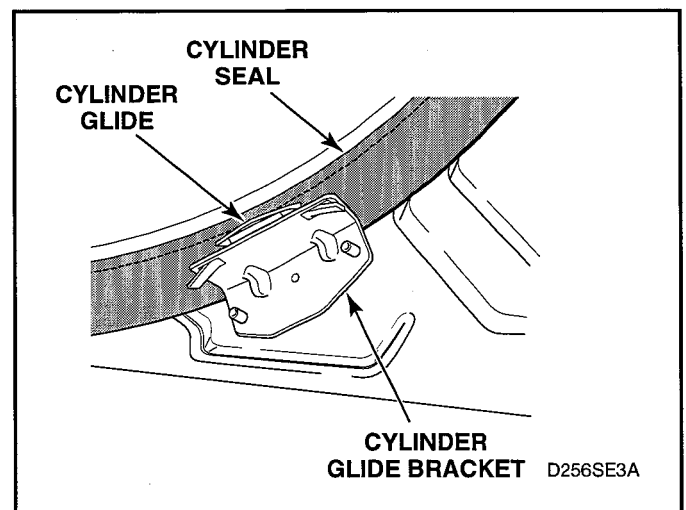

Figure 5-23
- Cylinder Glides and Glide Bracket (See figure 5-23.)